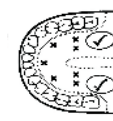

Figure 2
- a) Oral Use: Place thermometer under tongue as indicated by " " position shown in Figure 2. Close your mouth and breathe evenly through the nose to prevent the measurement from being influenced by inhaled/exhaled air.